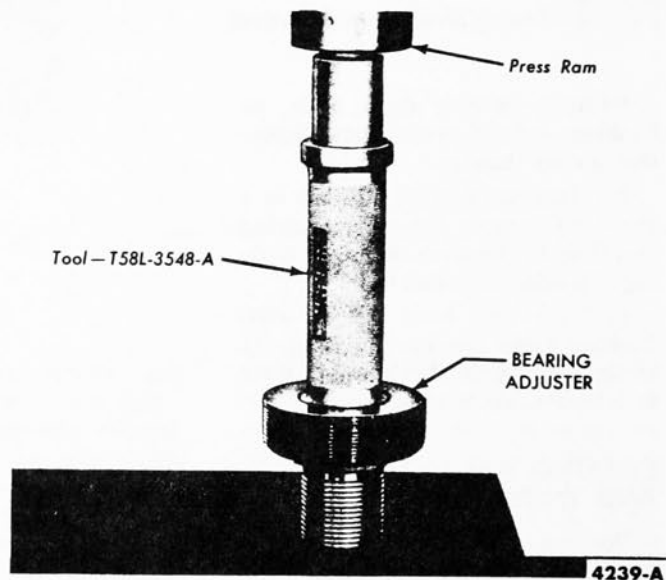

FIG. 10—Steering Shaft Upper Bearing Cup Installation
4. Press a new steering shaft upper bearing cup into the bearing adjuster (Fig. 10).